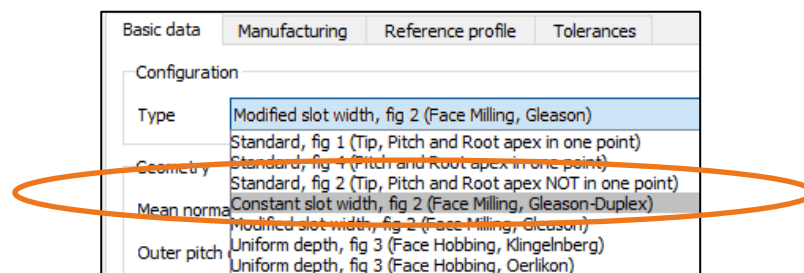

Figure 19. Selecting the «Constant slot width» type for duplex bevel gears
- In «**Basic data**» → «**Type**» select the «**Constant slot width**» type (see Figure 19). The pinion has a constant space width because both flanks are created in the same manufacturing run.